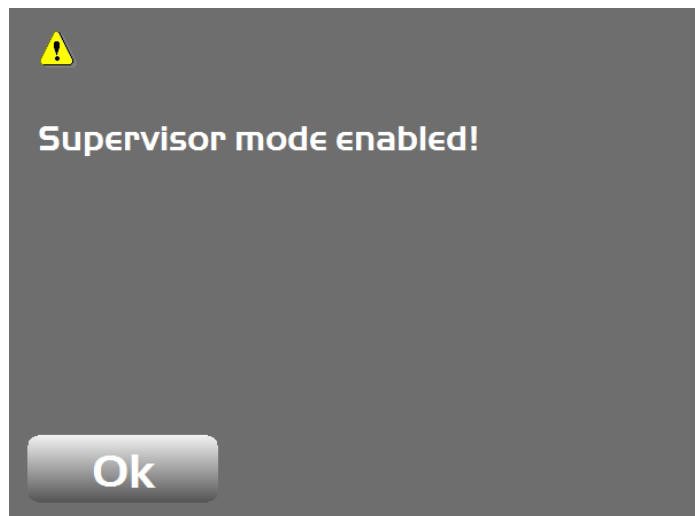

Figure 87: Supervisor Mode Enabled
3. Tap **OK** at the prompt (Figure 87).